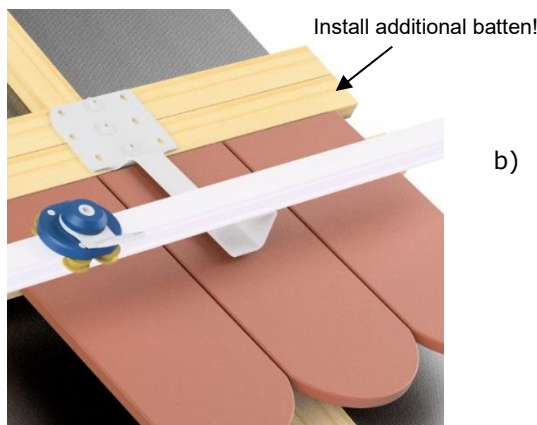

Fig. 2
- b) Bracket **SD-B** (plain tile roof): see fig. 2